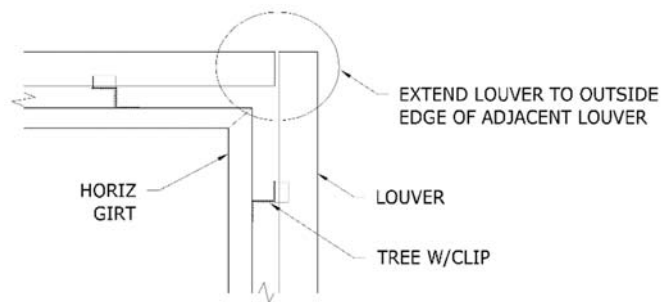

FIGURE 6
**Corner Trim:** When corner trims are being used, the louver blades should extend past the first tree far enough to meet the outside edge of the louvers from the opposite side of the corner as shown in Figure 6.